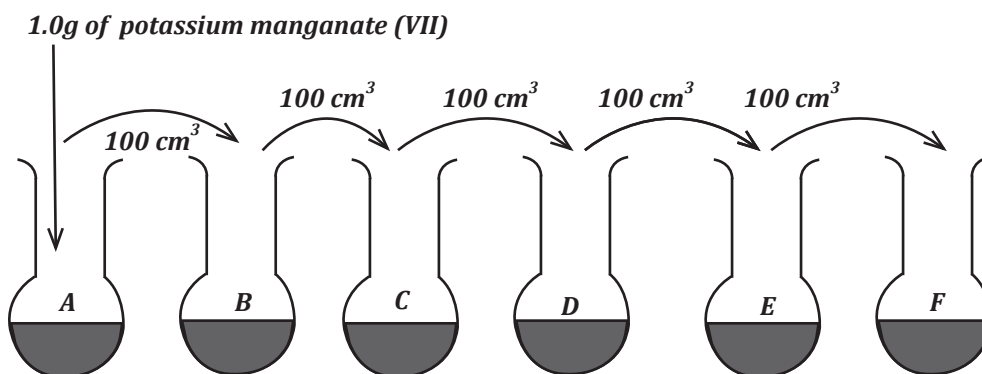

figure 5.2; observing the colour change when a solution of potassium manganate (VII) is diluted several times over.
1. Dissolve about 1.0g of purple potassium manganate (VII) crystals in 1 dm^3 of water. Stir until it all dissolves. Label it solution A (*figure 5.2*).
3. Repeat the process four more times, taking 100 cm^3 of the subsequent dilute solution at each step. You will finally get solution samples of different colour intensity A,B,C,D,E and F (*Figure 5.2*).